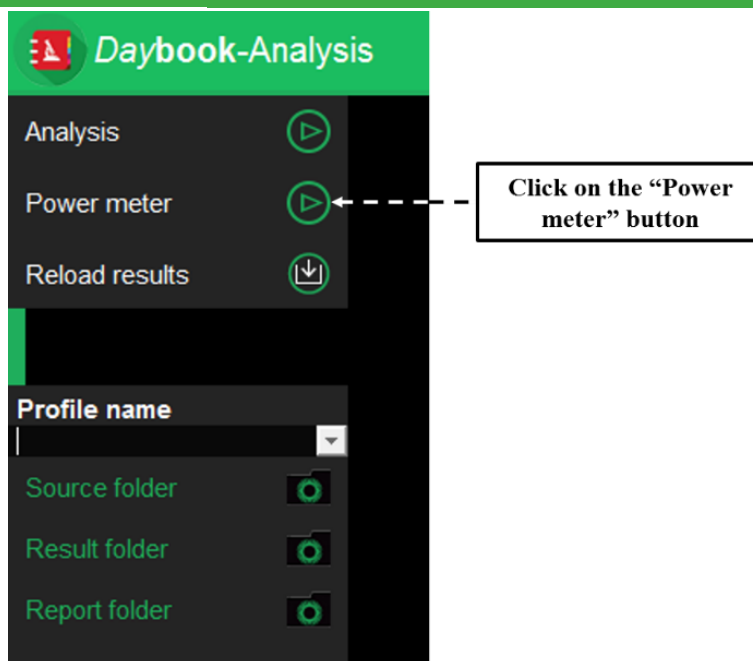

Figure 2: Daybook Analysis starting-up window.
- Click on the “Power meter” button on the top-left corner (cf. Figure 2).